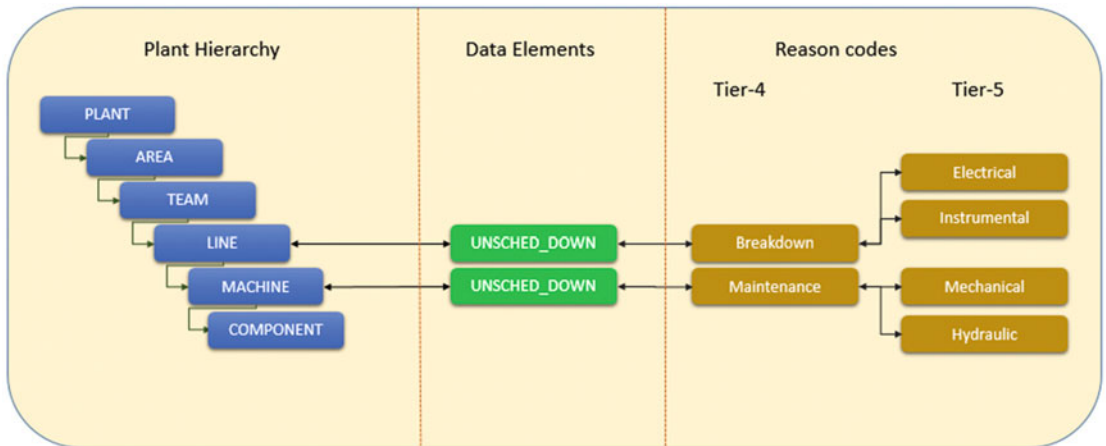

Figure 3-51. Reason code categorization
- A set of reason codes is defined for each type of loss (time and material losses) applicable as per the shop floor. Every loss is defined as a data element type in ERP. For example, UNSCD_DOWN is a standard time element type, but one can create custom ones too. Based on the plant and the data collection element, reason code hierarchy is displayed. For example (refer to Figure 3-51), a line can be down for multiple reasons. A line down ultimately affects the line's availability, which further affects production.
As in Figure 3-51, you can understand how the data element type UNSCD_DOWN is used for different nodes with different reason code assignments. In OEE, the reason codes can be defined specific to each node under General configuration/Reason code configuration. In the absence of this configuration, the complete reason code hierarchy is displayed for the operator to choose and assign the right reason code.